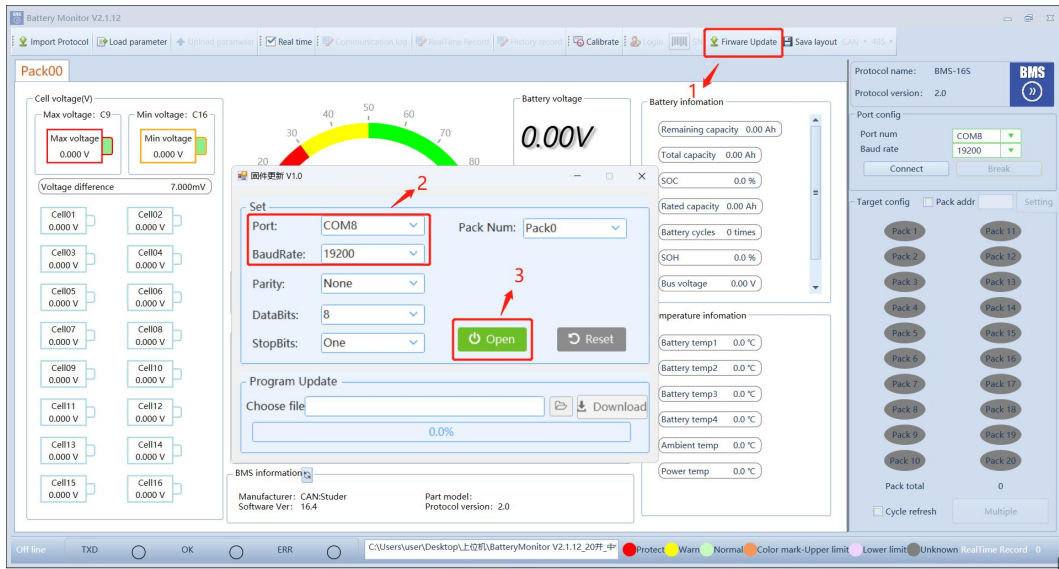

Figure 9-1
- 1) The upper monitor is disconnected, click "firmware update", select the corresponding port number, and the port rate to select 19200, and click "Open", Figure 9-1